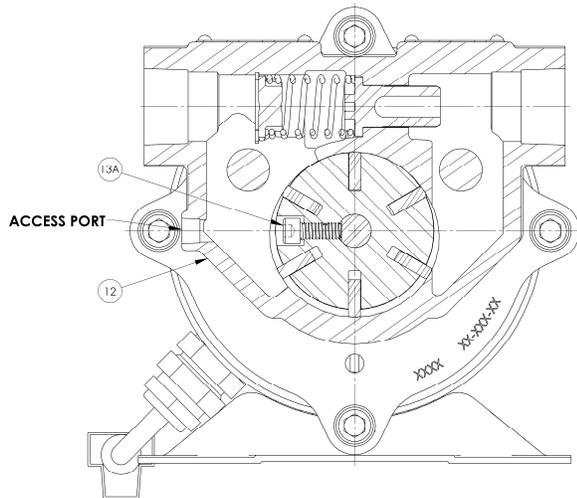

Figure 4: Rotor Capscrew Access
3. Install cylinder over shaft. Take care to protect stationary seat from damage. Install the four (4) capscrews loosely securing the cylinder to the motor.
6. Replace rotor capscrew (13A) into rotor/disc assembly (13). Tighten until the tip slightly protrudes into the rotor ID. This will allow the rotor to be installed into cylinder (12) and over the motor shaft flat to properly align the rotor during reassembly.
7. Replace vanes (14). Refer to "Vane Replacement" section of this manual
8. Slide rotor/disc assembly (13) with newly installed vanes into cylinder and over shaft. Rotate rotor/disc assembly until rotor capscrew is accessible through port in side of cylinder. See figure 4.
9. Install head O-ring (72) into cylinder. Take care that the O-ring does not protrude from O-ring groove in cylinder..
10. Install head (20) onto motor shaft and into the cylinder head pocket.
11. Install and tighten the three head capscrews (21). Torque to 40 in lbf (4.5 Nm)